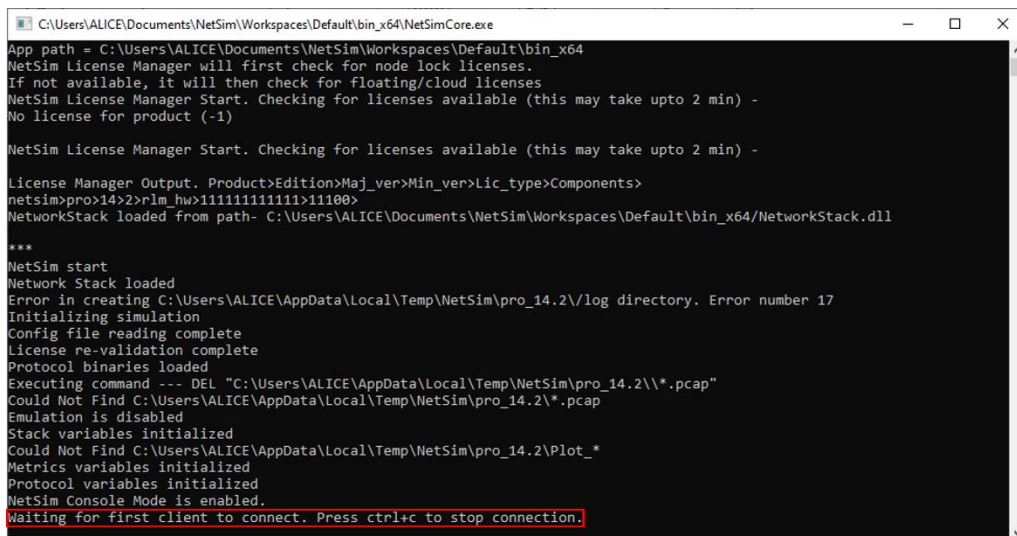

Figure 3-112: Waiting for first client to connect.
- Simulation (NetSimCore.exe) will start running and will display a message “waiting for first client to connect” as shown below Figure 3-112.